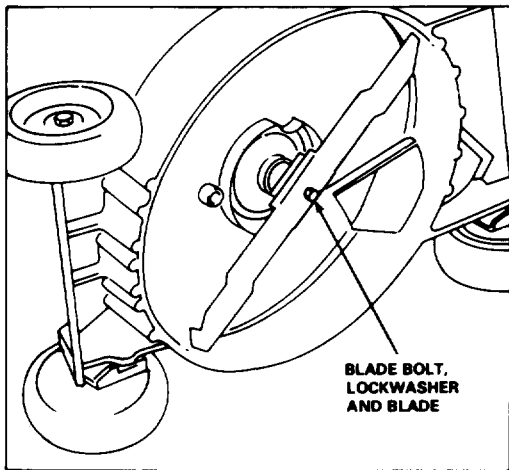

Figure 20
3. Tip mower onto its right side (Fig. 20). Avoid rotating blade. Starting problems may result.
5. **REMOVING BLADE**–Grasp end of blade using a rag or thickly padded glove. Remove blade bolt, lock washer and blade (Fig. 20).